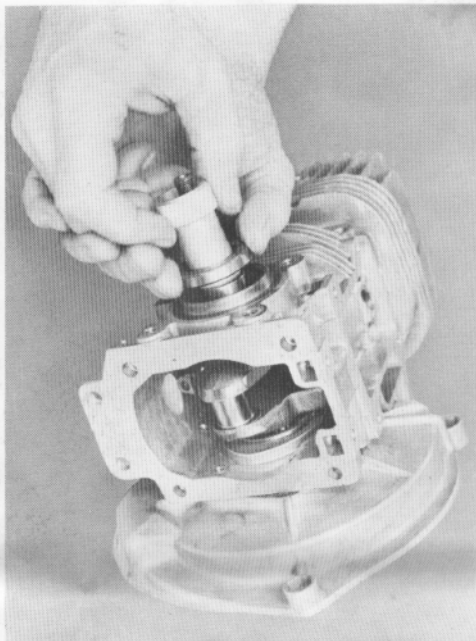

FIGURE 23
6. Place a lightly oiled seal protector on the sprocket end of the crankshaft and press the crankshaft and bearings into the crankcase (Figure 23).